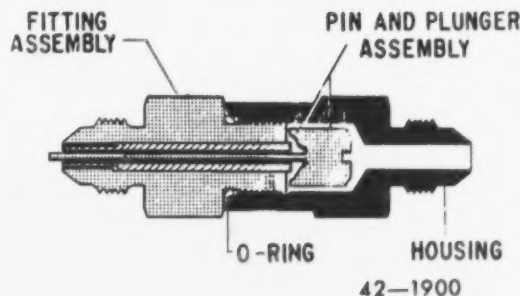

Figure 3-3. Snubber valve.
Snubber. On many pressure gages, the pressure port has a built-in orifice which restricts the flow of fluid entering and leaving the gage. This prevents the normal surging action of the pump, plus the rapid building up and dropping of pressure in the system, from damaging the gage. It also prevents violent oscillation of the pointer. If this orifice is not built into the gage, then you should have a snubber (see fig. 3-3) in the pressure line to the pressure gage or transmitter. The snubber serves as an orifice (small opening) in the line, preventing pressure surges from getting to the gage at full force. The basic components of the snubber valve is the housing, which has a fixed diameter orifice, and dampening plunger (pin). The energy of system pressure surge is absorbed in the form of a pressure drop as the surge flows through the fitting assembly orifice. The pin is pushed and pulled through the orifice of the fitting assembly by the plunger. This keeps the opening clean and at a uniform size, assuring against any changes in the snubbing action over a long period of time. The plunger is free to move back and forth; but, because of its inertia, it tends to remain stationary. The weight of the plunger thus opposes the pressure surges in the fluid and cancels out most of them before they reach the pressure gage. The reduction of the surges results in a steadier pointer indication and therefore a more accurate reading. When installing snubbers, be sure that the end marked "GAGE" is installed towards the pressure gage or transmitter.
- Where is the snubber shown in figure 3-3 installed?
3. If the pressure gage does not have the snubber shown in figure 3-3, what will be used to restrict the flow of fluid entering and leaving the gage?
4. What is the purpose of the pin found in the snubber shown in figure 3-3?